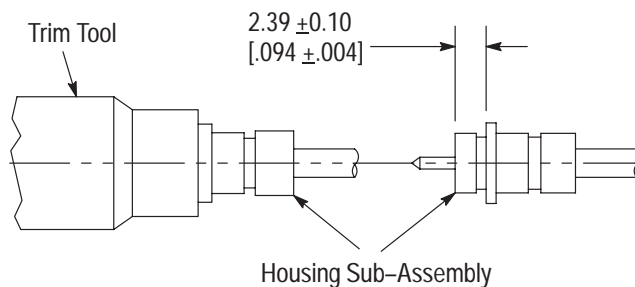

Figure 7
2. Inspect for the dimensional tolerance shown in Figure 7.